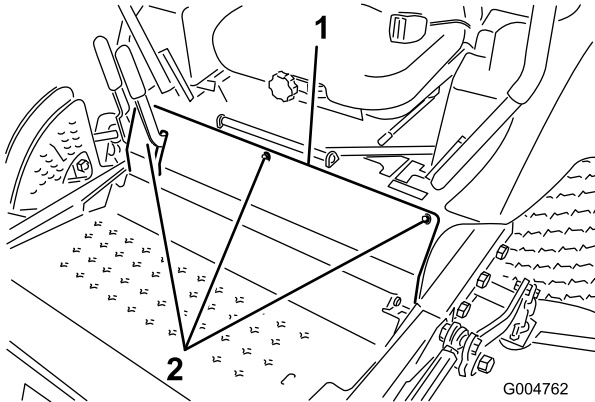

Figure 60
2. Remove the bolts securing the front panel and remove the panel (Figure 60).